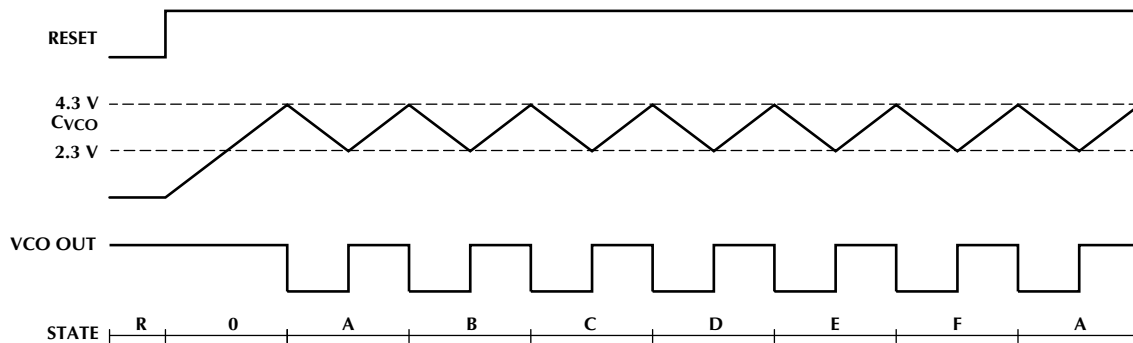

Figure 5. Commutation Timing and Sequencing.
**Note 1.** For explanation of states, see Figure 5 and Table 1.